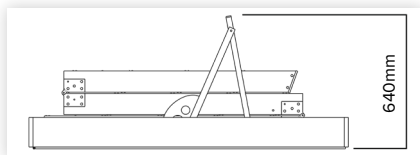

figure 2
- The area for the opening must be clear of wiring, plumbing and structural members such as beams and trusses with a minimum clear height above the ceiling of 640mm for A34 and A36. (figure 2).